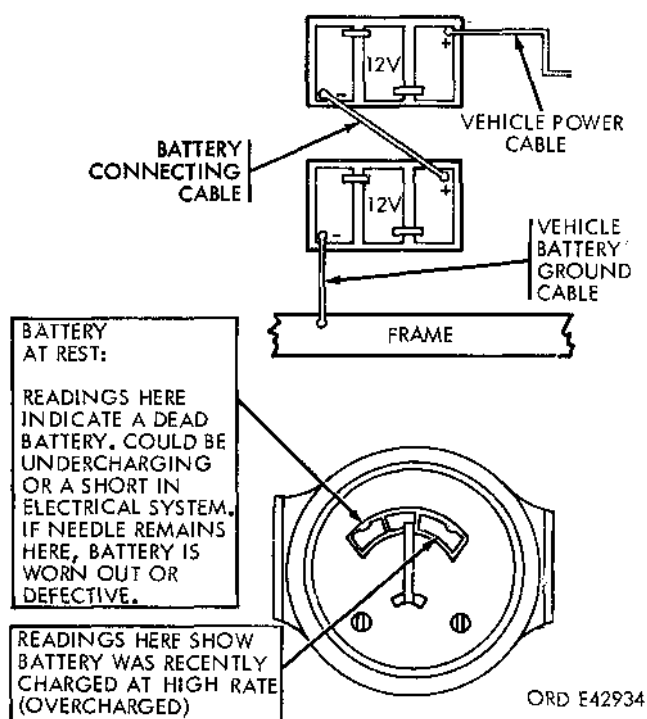

Figure 2-10. Battery system.
a. *Battery Indicator.* Vehicle batteries should be tested prior to performing any electrical checks in the vehicle. This vehicle has two 12-volt batteries connected in series furnishing 24 volts to the electrical system in accordance with figure 2-10. This vehicle has a 24-volt electrical system that uses a negative (—) ground and a positive (+) power feed to the electrical components. Turn on the ignition switch and observe the battery indicator in accordance with figure 2-10.